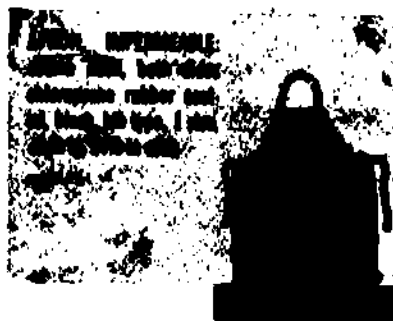

Fig 1-53. Rubber apron.
- (1) **Rubber apron (fig 1-53).** The apron should be worn at all times when working with battery acid (liquid). It is recommended that it be worn when cleaning or carrying batteries. The apron should be cleaned periodically with a solution of baking soda and water to remove acid. To avoid both sides being exposed to acid, one side should be stenciled battery side or clothing side.